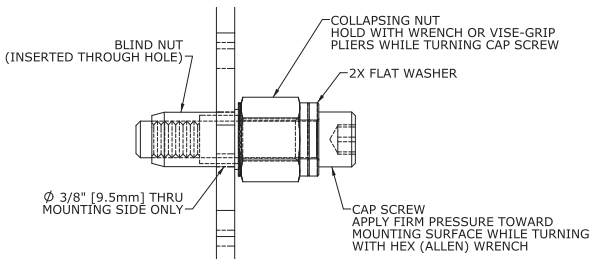
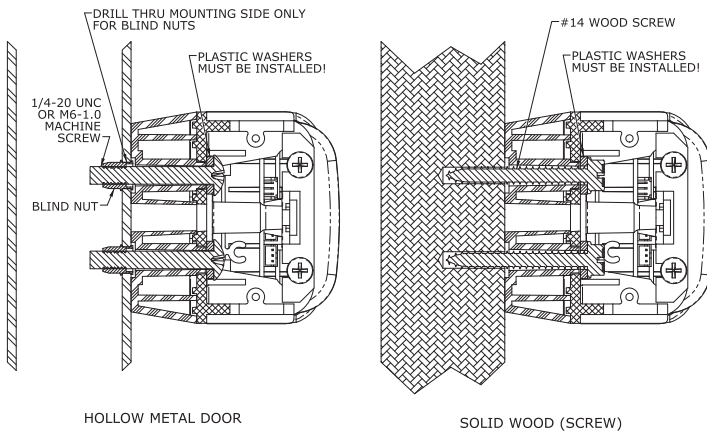

Figure 5
Figure 6
The bar should be mounted to the door using the blind nuts and screws provided as shown in **Figure 6**. Use the following step-by-step instructions and **Figure 5** for the installation of the blind nuts:
The bar may be mounted using wood screws (not furnished). Four (4) #14 wood (or SMS) screws with a hex head are recommended (see **Figure 6**).